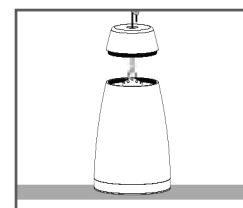

FIGURE 10: LOAD SUPPORTED
7. Make sure the weight of the load is supported. (See figure 10).